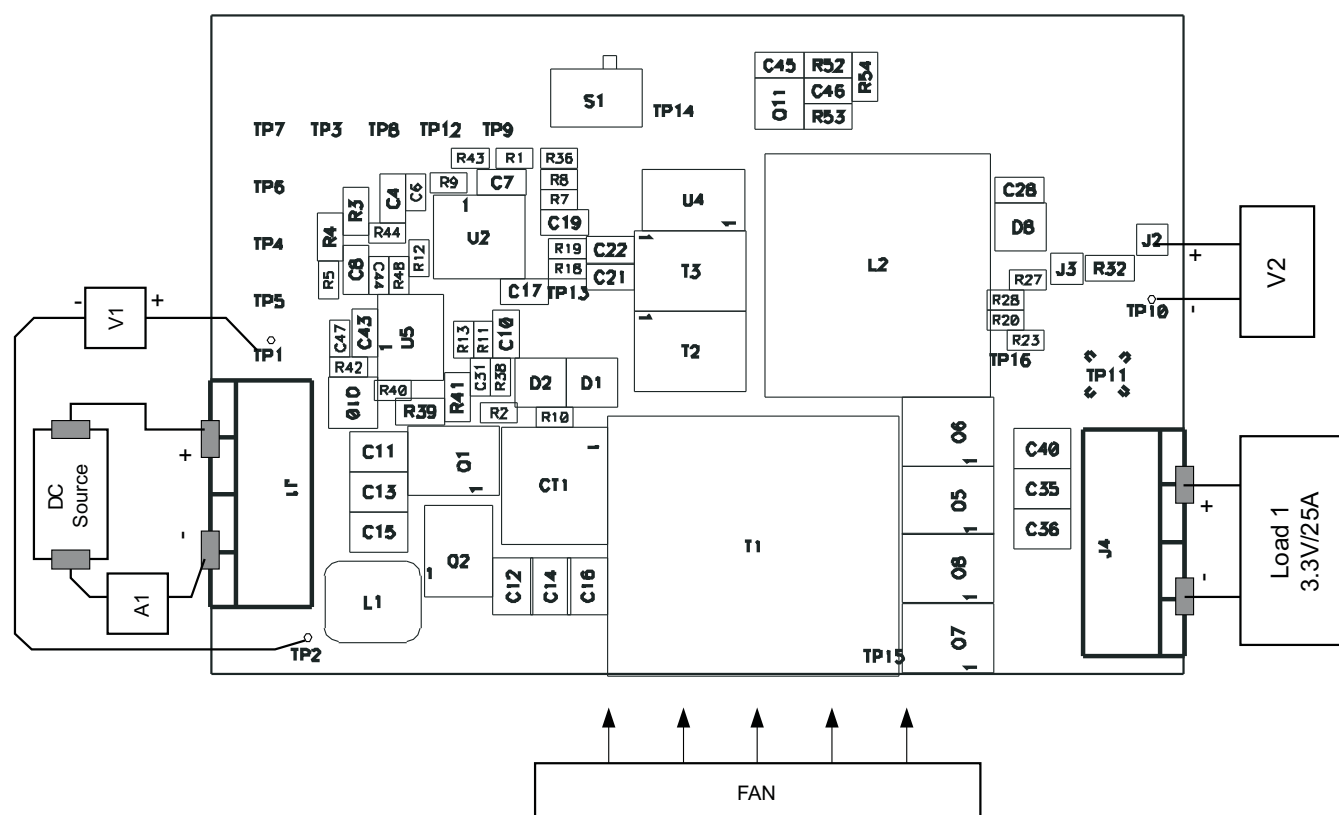

Figure 2. Recommended Test Set Up
Set up the EVM based on Figure 2.
1. Connect the ammeter A1 (0 A to 10 A range) between DC source and J1 as shown in Figure 2.
2. Prior to connecting the DC source, it is advisable to limit the source current to 3 A maximum. Make sure the DC source is initially set to 0 V and connected to J1 and A1 as shown in Figure 2.
3. Connect voltmeter, V1 across the DC source as shown in Figure 2.
4. Connect Load1 to J5 as shown in Figure 2. Set Load1 to constant current mode to sink 0 A_{DC} before the input voltage on J1 is applied.
5. Connect voltmeter, V2 to J2 and TP10 as shown in Figure 2.